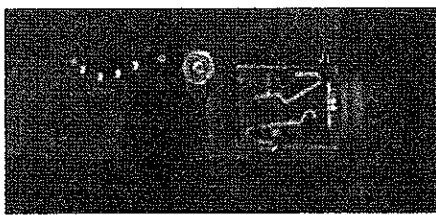

Figure 26
1. Solder the replacement temperature jack as supplied by Bard. Be sure to position the connector edge with the edge of the PCB and within the silk-screen lines on the display PCB (see Figure 26).